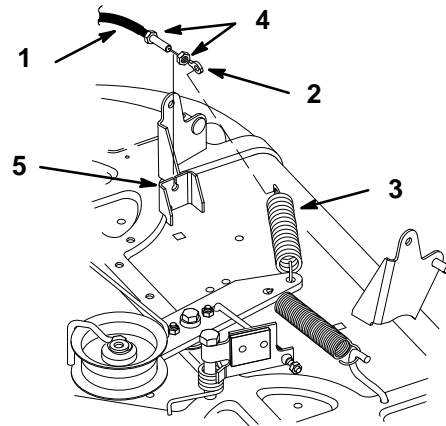

Figure 38
6. Unhook the blade control (PTO) cable ring end from the idler spring (Fig. 38).
7. Remove rubber wiper and jam nut from blade control (PTO) cable at mounting bracket. Slide the cable from the bracket (Fig. 38).